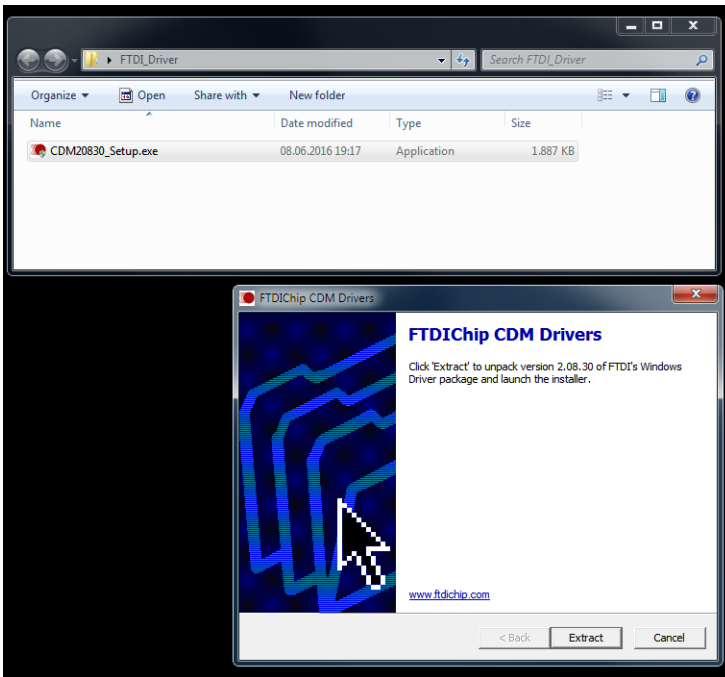

Figure 2. FTDI driver.
3. Install the FTDI_Driver driver as shown in Figure 2.